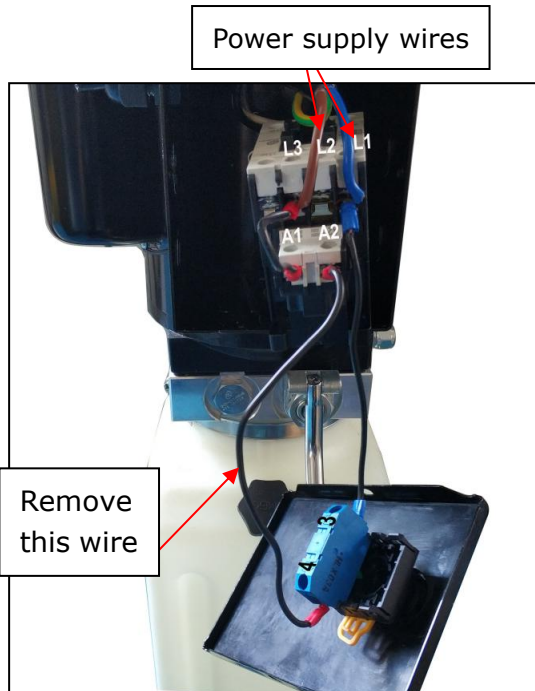
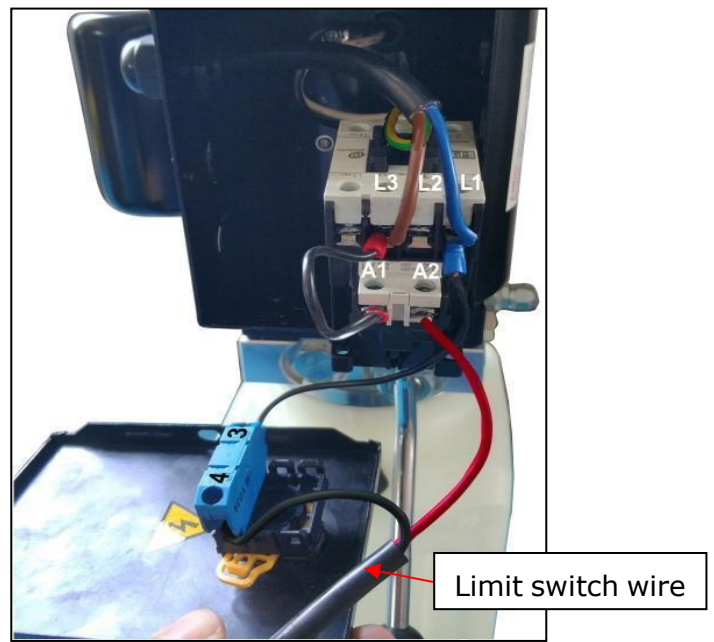

Fig. 40
Fig.41
- 2. Connecting limit switch wire: remove the short wire connecting terminal 4# of control button and A2 of AC contactor firstly (See Fig.40), then according to the wire number of the limit switch, connect them respectively to terminal 4# of control button and A2# of AC contactor. (See Fig. 41)